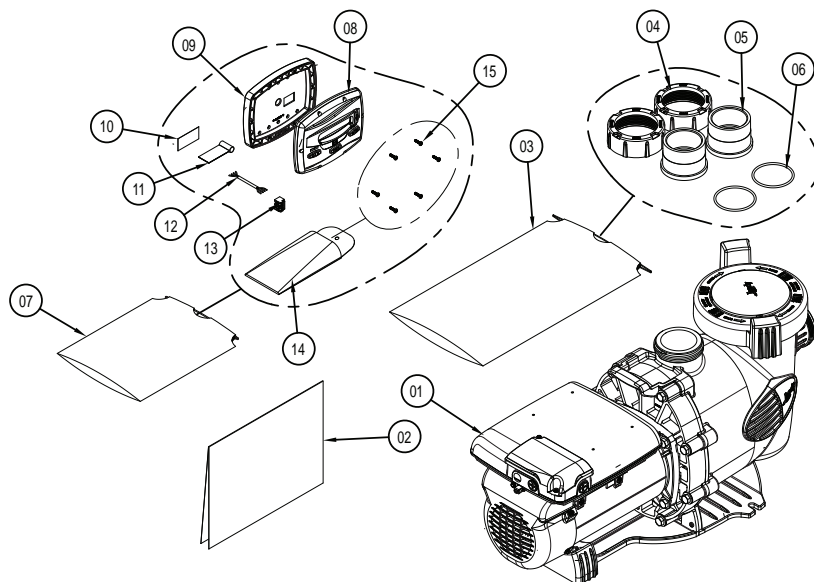

Figure 1. Carton Contents
- **Number of Suction Outlets Per Pump** - Provide at least two (2) hydraulically-balanced main drains, with covers, as suction outlets for each circulating pump suction line. The centers of the main drains (suction outlets) on any one (1) suction line must be at least three (3) feet apart, center to center. See Figure 1.
2. Inspect the contents of the carton and verify that all parts are included. See "Figure 1. Carton Contents".